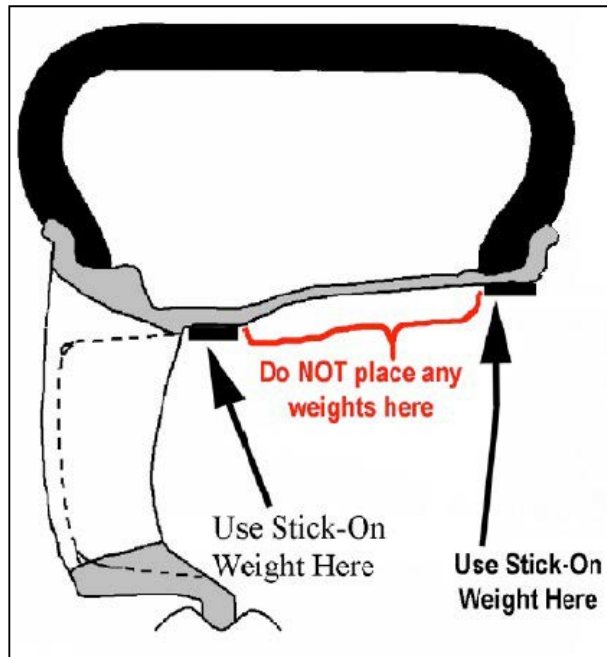

Figure 7a
- a. Mount wheel/tire on wheel balance machine using Hunter cone, shown on page 3. Enable the LOAD ROLLER, if applicable, to ensure proper bead seating. See Figures 7a, 7b.